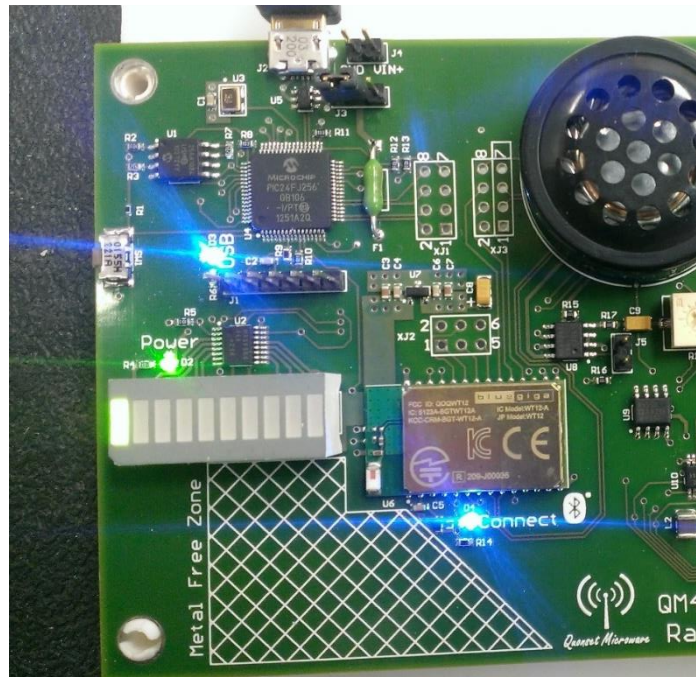

Figure 4: Power, USB and Connect LEDs
- c. If this is the first time connecting your RDK to a computer, Windows will find the new hardware and install the appropriate drivers. Once the hardware is installed, three LEDs should be powered 'ON' on the RDK board, as shown in Figure 4.